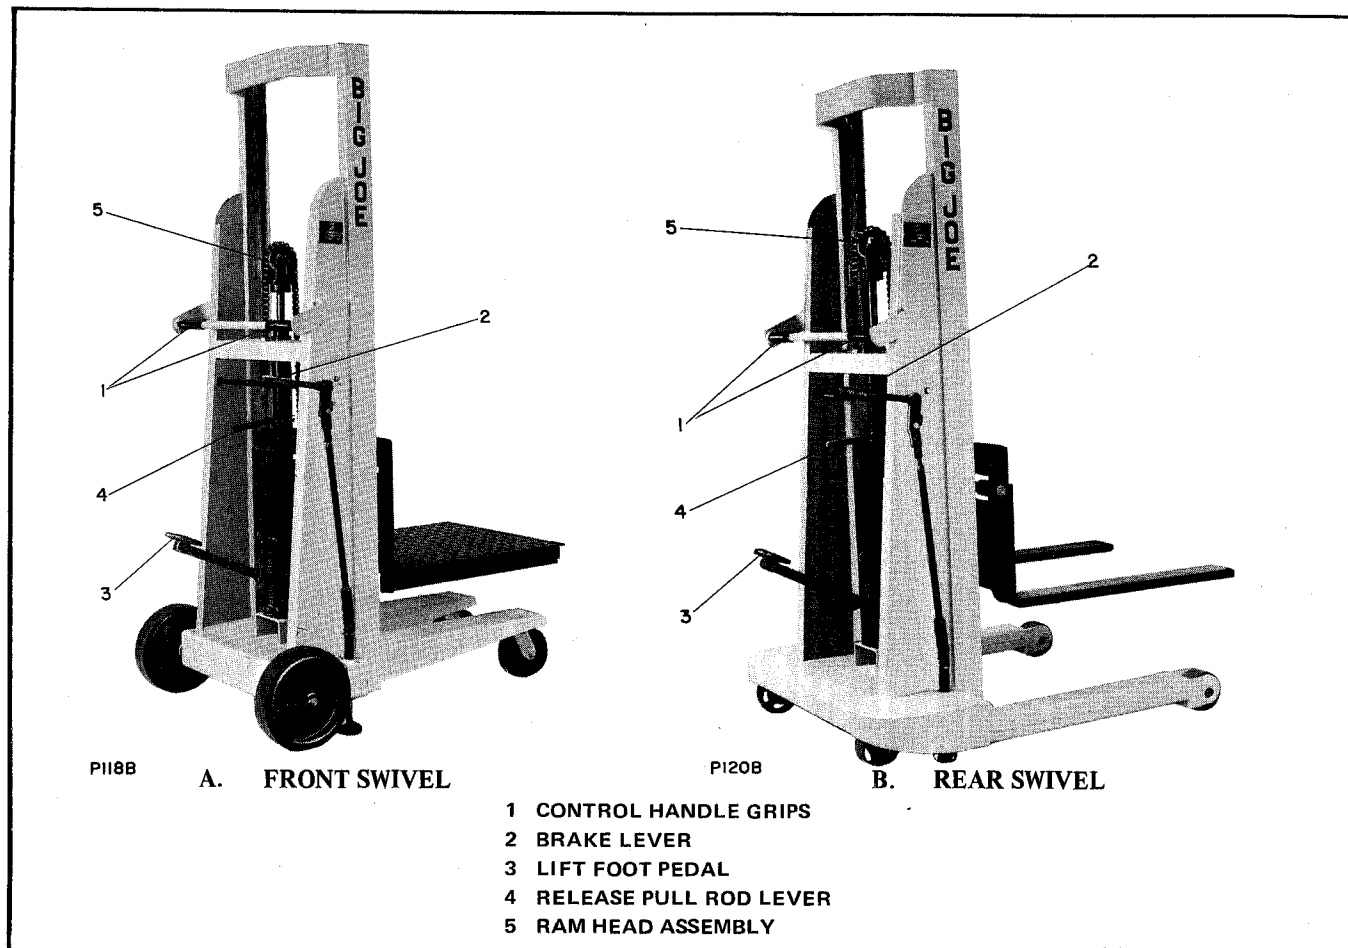

Figure 2-1. Operating Controls
3. Grasp the two control handle (1, figure 2-1) grips. Push evenly with both hands to move the lift truck forward; pull evenly with both hands to move the lift truck backwards.
4. For normal stopping, slowly pull up on the brake lever (2). For emergency or abrupt stops, sharply pull up on the brake lever.